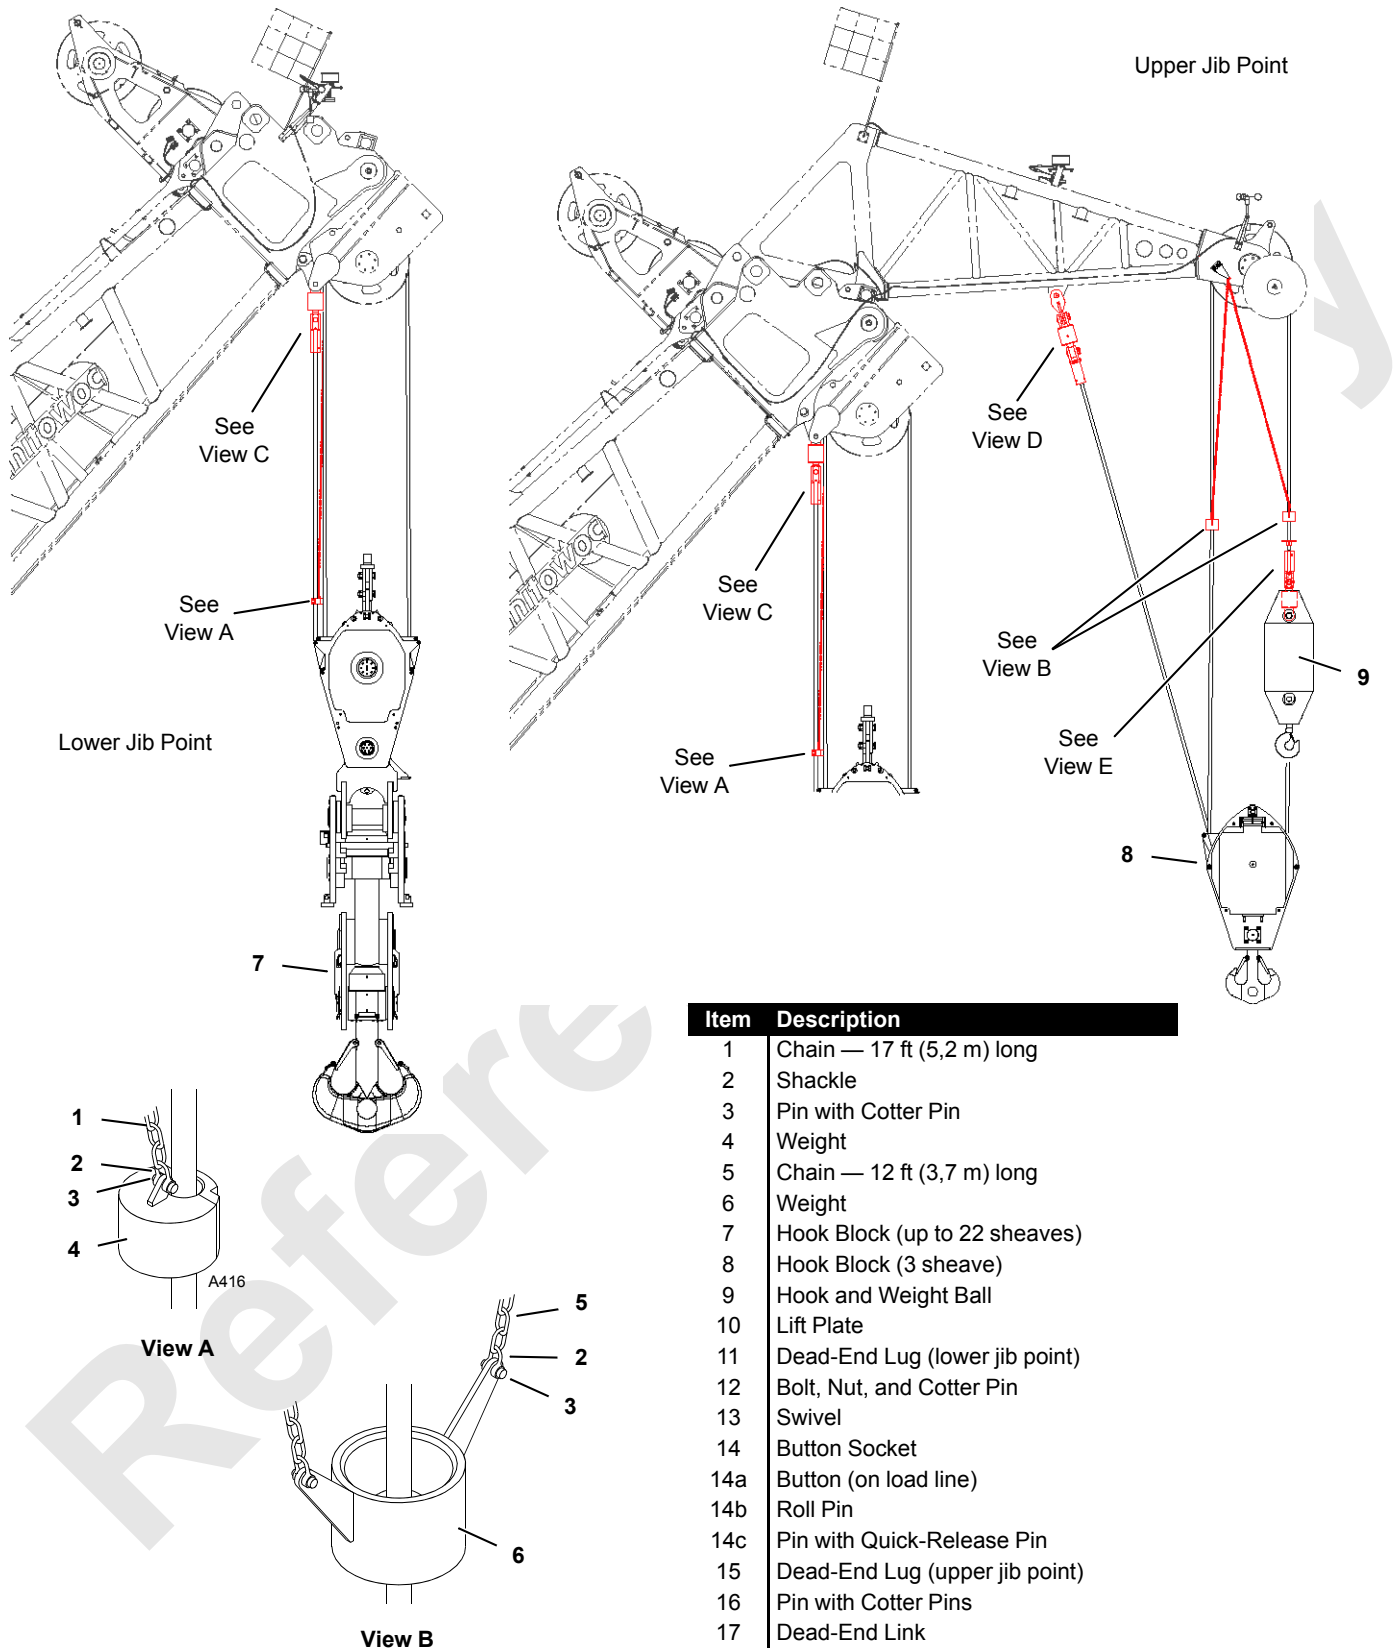

FIGURE 4-166
2. Dead end the load lines as shown in Figure 4-166.
Connect the anti-two block weights and chains to the load lines as shown in Figure 4-166.
FIGURE 4-166 continued